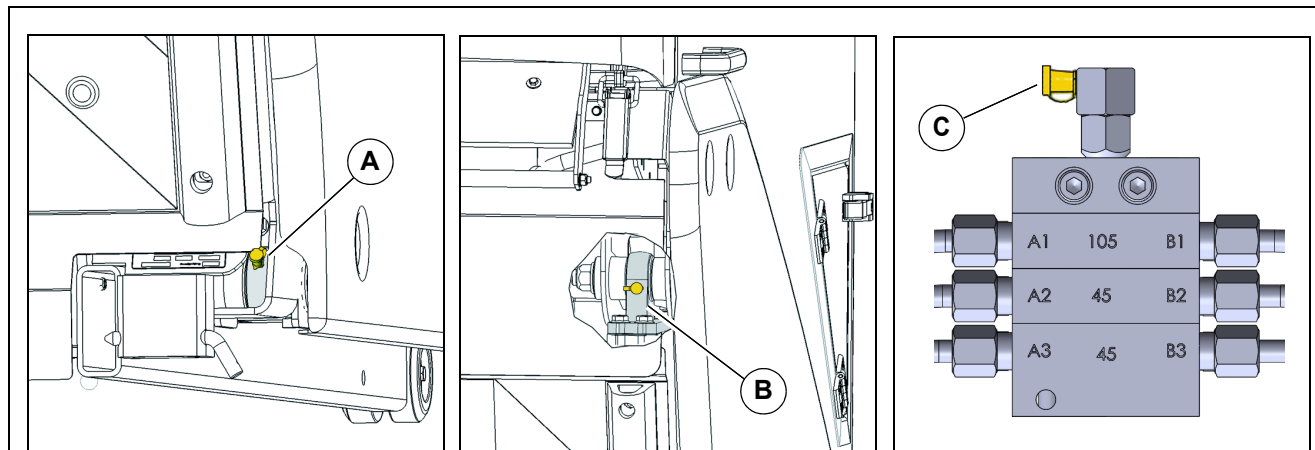

Fig. 178:
- Dirt hopper lifting cylinder up/down and left/right (x4) **Fig. 178-A**
- Dirt hopper raising joint left/right (x2) **Fig. 178-B**
- Single-point lubrication system dirt hopper (x1) (optional) **Fig. 178-C**